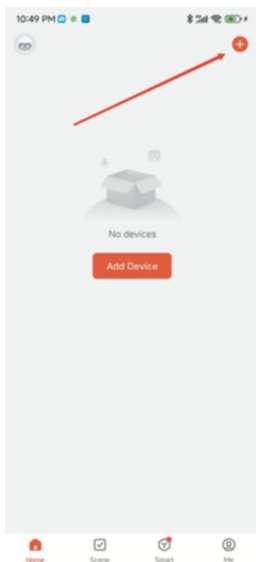

Figure1
- 3 After completing the registration, you will automatically enter the main interface, click "+" in Figure 1 at the top of the screen, then click "add device" in Figure 2, click "camera / lock" in Figure 3, find "Wi Fi" and click.